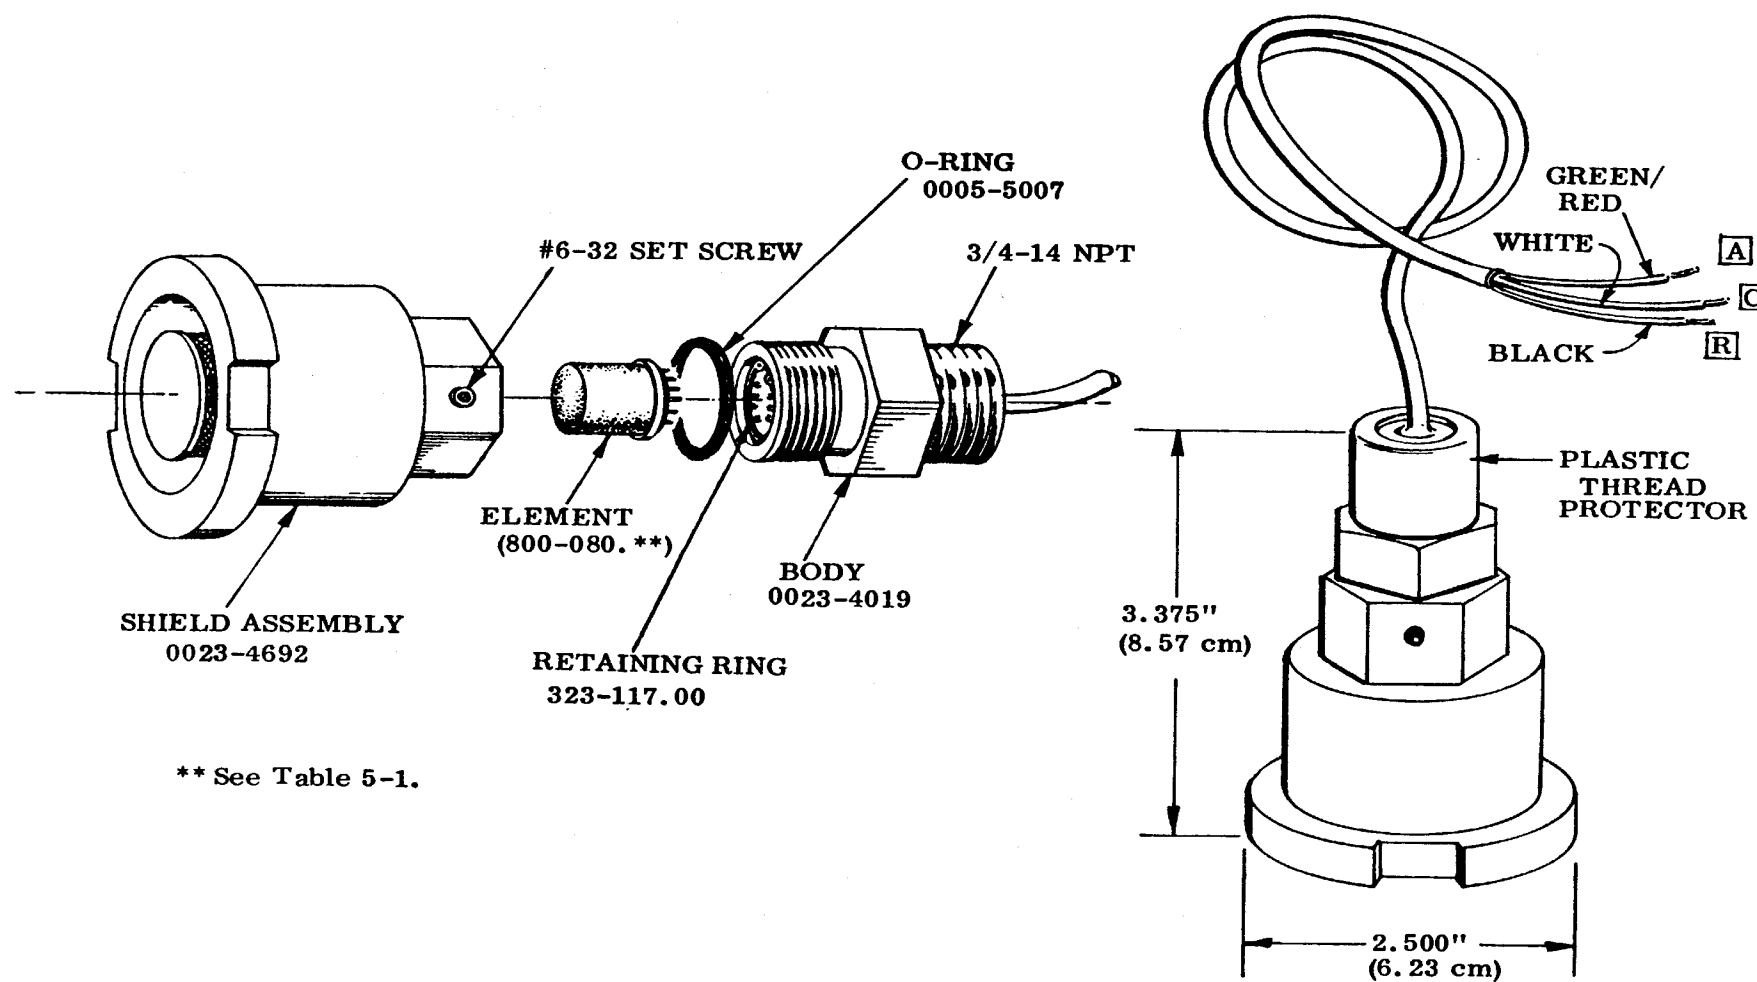

Figure 2-20. Detector Model 0023-4012 Exploded View
NOTE: Prior to May, 1973, 0005-5007 O-rings were not installed in detectors 0023-4012 and 0023-4017. Order and install the specified O-ring as shown in Figure 2-20 or 2-22 if disassembly reveals that this sealing device is absent.
- b) To expose sensor element of Detector #0023-4012 (Figure 2-20):